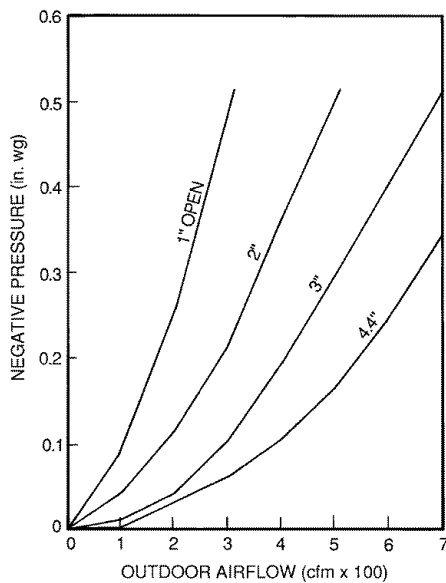

Fig. 20 — Outdoor-Air Damper Position Setting
8. Adjust minimum position setting of the damper blade by adjusting the manual outdoor-air adjustment screws on the front of the damper blade. See Fig. 17. Slide blade vertically until it is in the appropriate position determined by Fig. 20. Tighten screws.